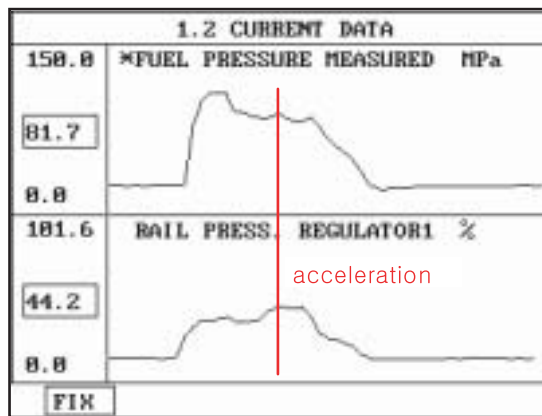

Fig.4
- Fig.4) Fuel pressure and Rail pressure regulator valve data at acceleration.